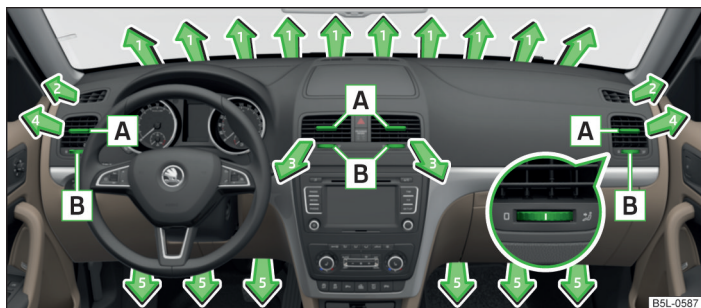
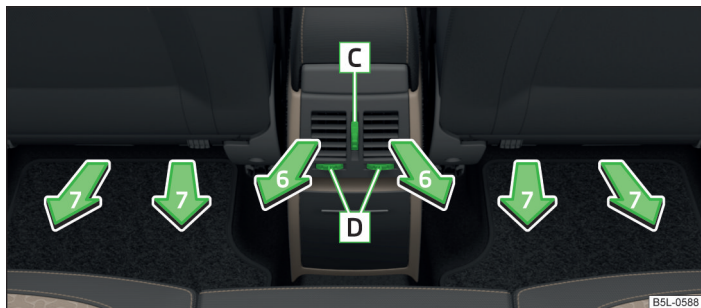

Fig. 91 Air vents at the front
Fig. 92 Air vents at the rear
The direction of airflow can be adjusted using the air outlet vents 3, 4 » Fig. 91 and 6 » Fig. 92 - the outlets can be opened and closed individually.
› Turn the knob **B** to the position  » Fig. 91.
› Turn the knob **B** to the 0 » Fig. 91.
› Turn the knob **C** between the end positions » Fig. 92.
› Turn the knob **C** to the end position » Fig. 92.
› To change the height of the air flow, swivel the horizontal fins with the movable adjuster **A** » Fig. 91 upward or downward.
› To change the height of the air flow, swivel the horizontal fins with the movable adjuster **A** » Fig. 92 upward or downward.
- The air outlet vents **6** » Fig. 92 are only fitted on vehicles with the higher centre console.